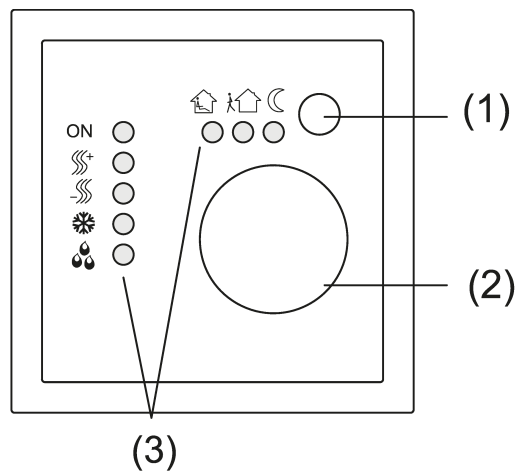

Figure 1: Controls and indicators
The controller compares the current room temperature with the setpoint temperature and controls the heating and cooling devices according to the current demand. The setpoint temperature is determined by the set operating mode and can be varied with the adjustment dial (2). The selected operating mode and the current controller status are indicated by the status LED (3) (see figure 1).
The new operating mode is indicated by the status LED (3) (see fig. 1).
- Press the presence button (1) (see Fig. 1).